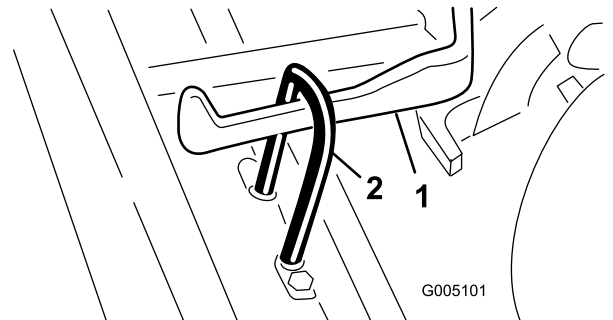

Figure 7
2. Slide the cutting unit under the pull frame while sliding the lift hook onto the lift arm (Figure 7).